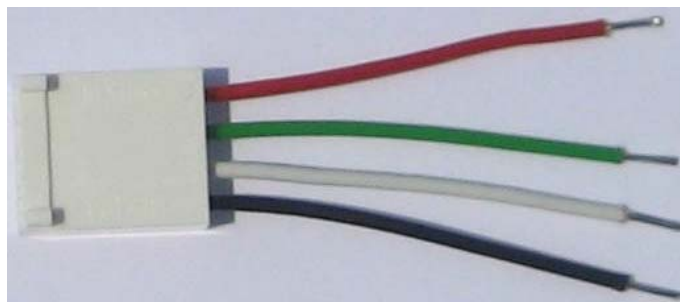

Figure 4 - Flying Leads Connector Assembly
- Figure 4 - Flying Leads Connector Assembly 4
3. Attach the Flying Leads Connector assembly (Figure 4) to the embedded USB link using best commercial soldering practices. Connect RED to VBUS, BLK to GND, WHT to D+, and GRN to D-.